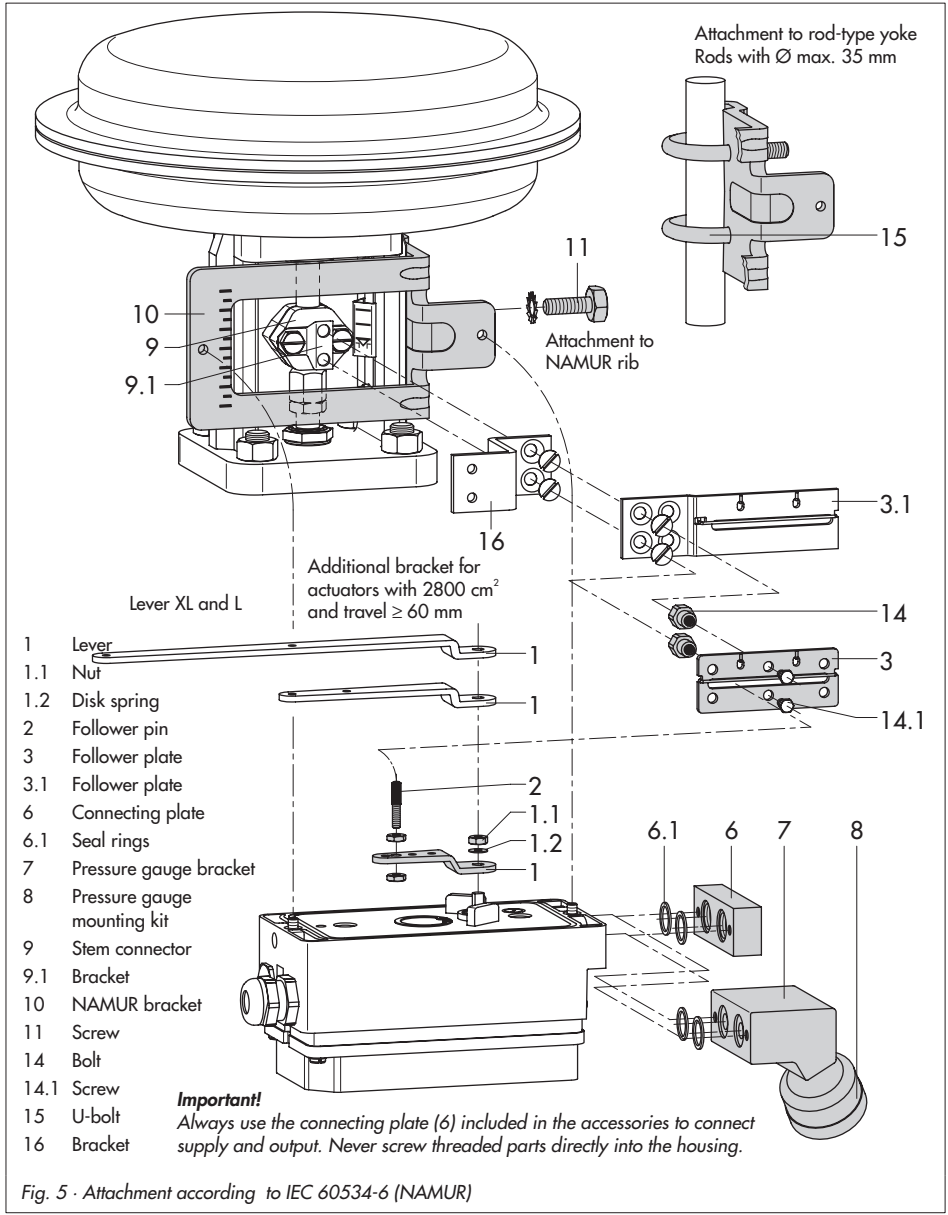

Fig. 5 · Attachment according to IEC 60534-6 (NAMUR)
**For the pneumatic connection** either a connecting plate (6) or a pressure gauge bracket (7) must be fixed to the housing, depending on the accessory chosen. Make sure the seal rings (6.1) are correctly inserted (see Fig. 5, bottom right).